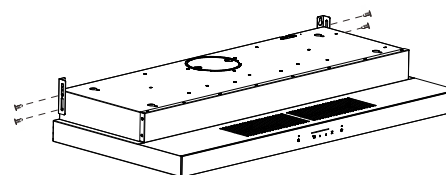

Fig.12
① Before fixing the hood to the wall, mount two mounting brackets to the hood from two side with 4 screws (Fig.12).